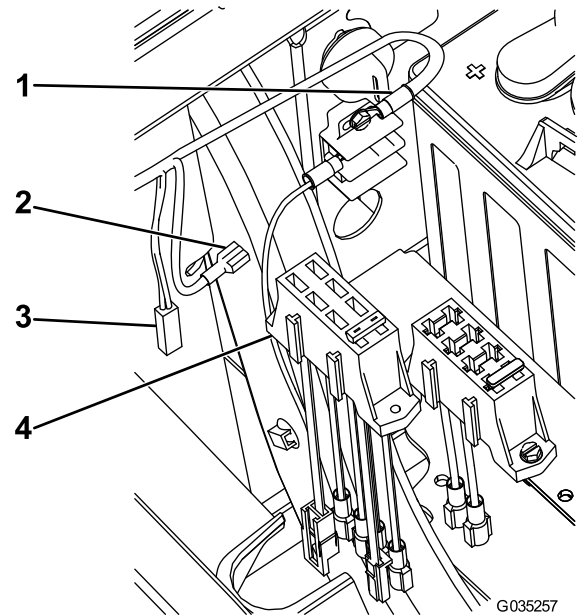

Figure 4
3. Connect the large connector on the new fuse block to the optional power cable on the existing fuse block (Figure 4).
7. Connect the remaining wire to the fused wire on the new fuse block (Figure 4).